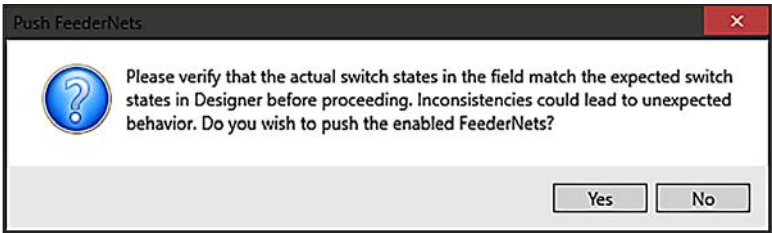

Figure 91. The Push FeederNets dialog box.
STEP 4. Verify the actual switch states in the field match the expected switch states in IntelliTeam Designer before proceeding. Inconsistencies could lead to unexpected behavior. A dialog box will open: “Do you wish to push the enabled FeederNets? Selecting “Yes” will proceed with the push; selecting “No” will cancel the push. See Figure 91 on page 98.